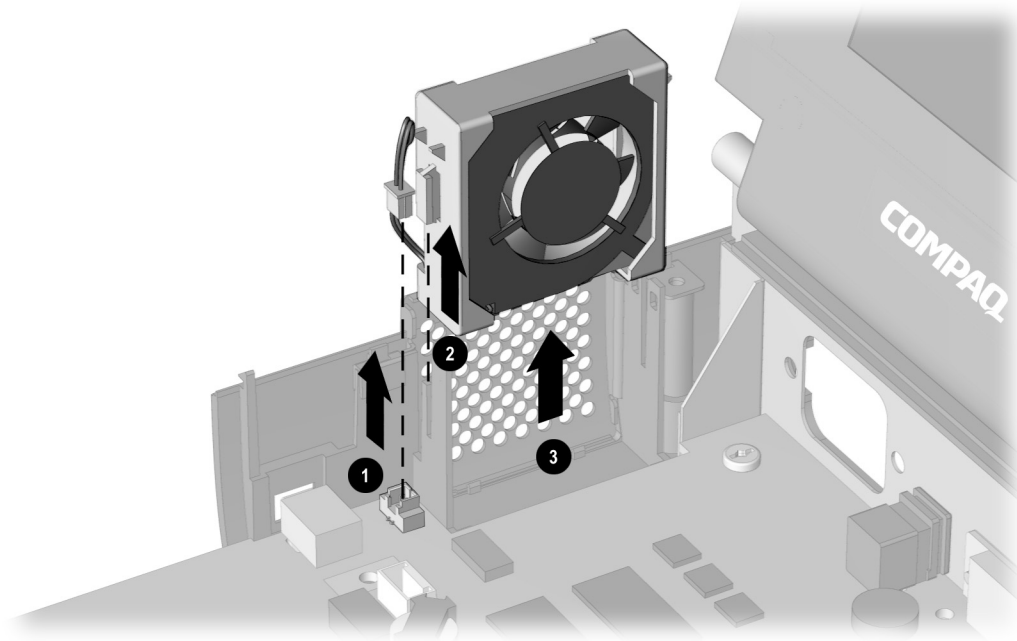

Figure 5-38. Removing the Fan Assembly
6. Disconnect the cable ❶ connecting the fan assembly to the system board (Figure 5-38).
7. Release the fan assembly from the brackets ❷ that secure either side of the assembly by pulling the brackets apart.
8. Lift the fan assembly out of the computer ❸.